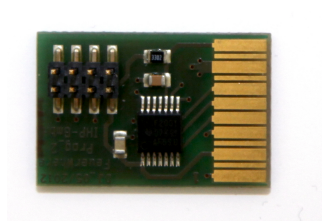
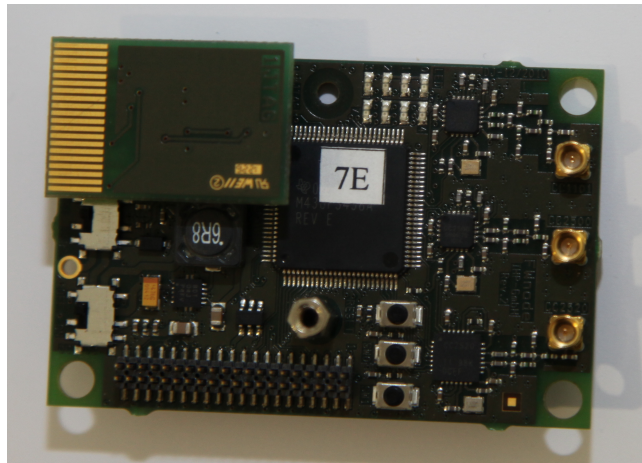

Figure 2: Adapter for flashing FWnode via USB
Figure 3: FWnode with the adapter for USB programming
You will also need an extra adapter for USB programming (see Figure 2). In short, to start USB programming the MSP430 must enter BSL (Bootstrap Loader) mode. To enter this mode, the BSL lines must be switched very quickly, and it is not possible with this USB configuration. Therefore, the extra adapter includes another MSP430
that monitors these BSL lines and switches them quickly enough to enter the BSL mode. FWnode with the adapter is showed in Figure 3.
1. Put the USB adapter (Figure 2 and Figure 3) onto the FWnode